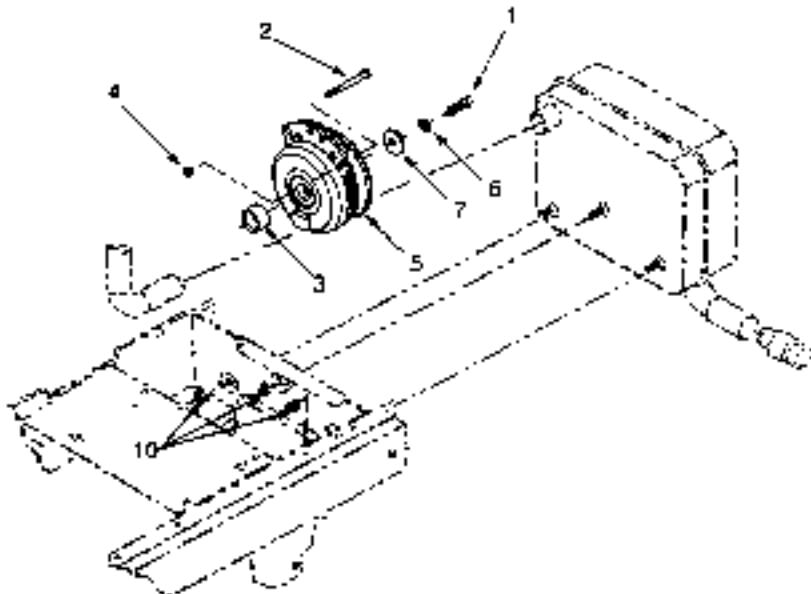

Figure 5-6. PTO Clutch (Models 2190, 2135, 2140 and 2145).
3. Remove the hex flange lock nuts (10, Fig. 5-6) securing the muffler to the tractor frame and remove the muffler.